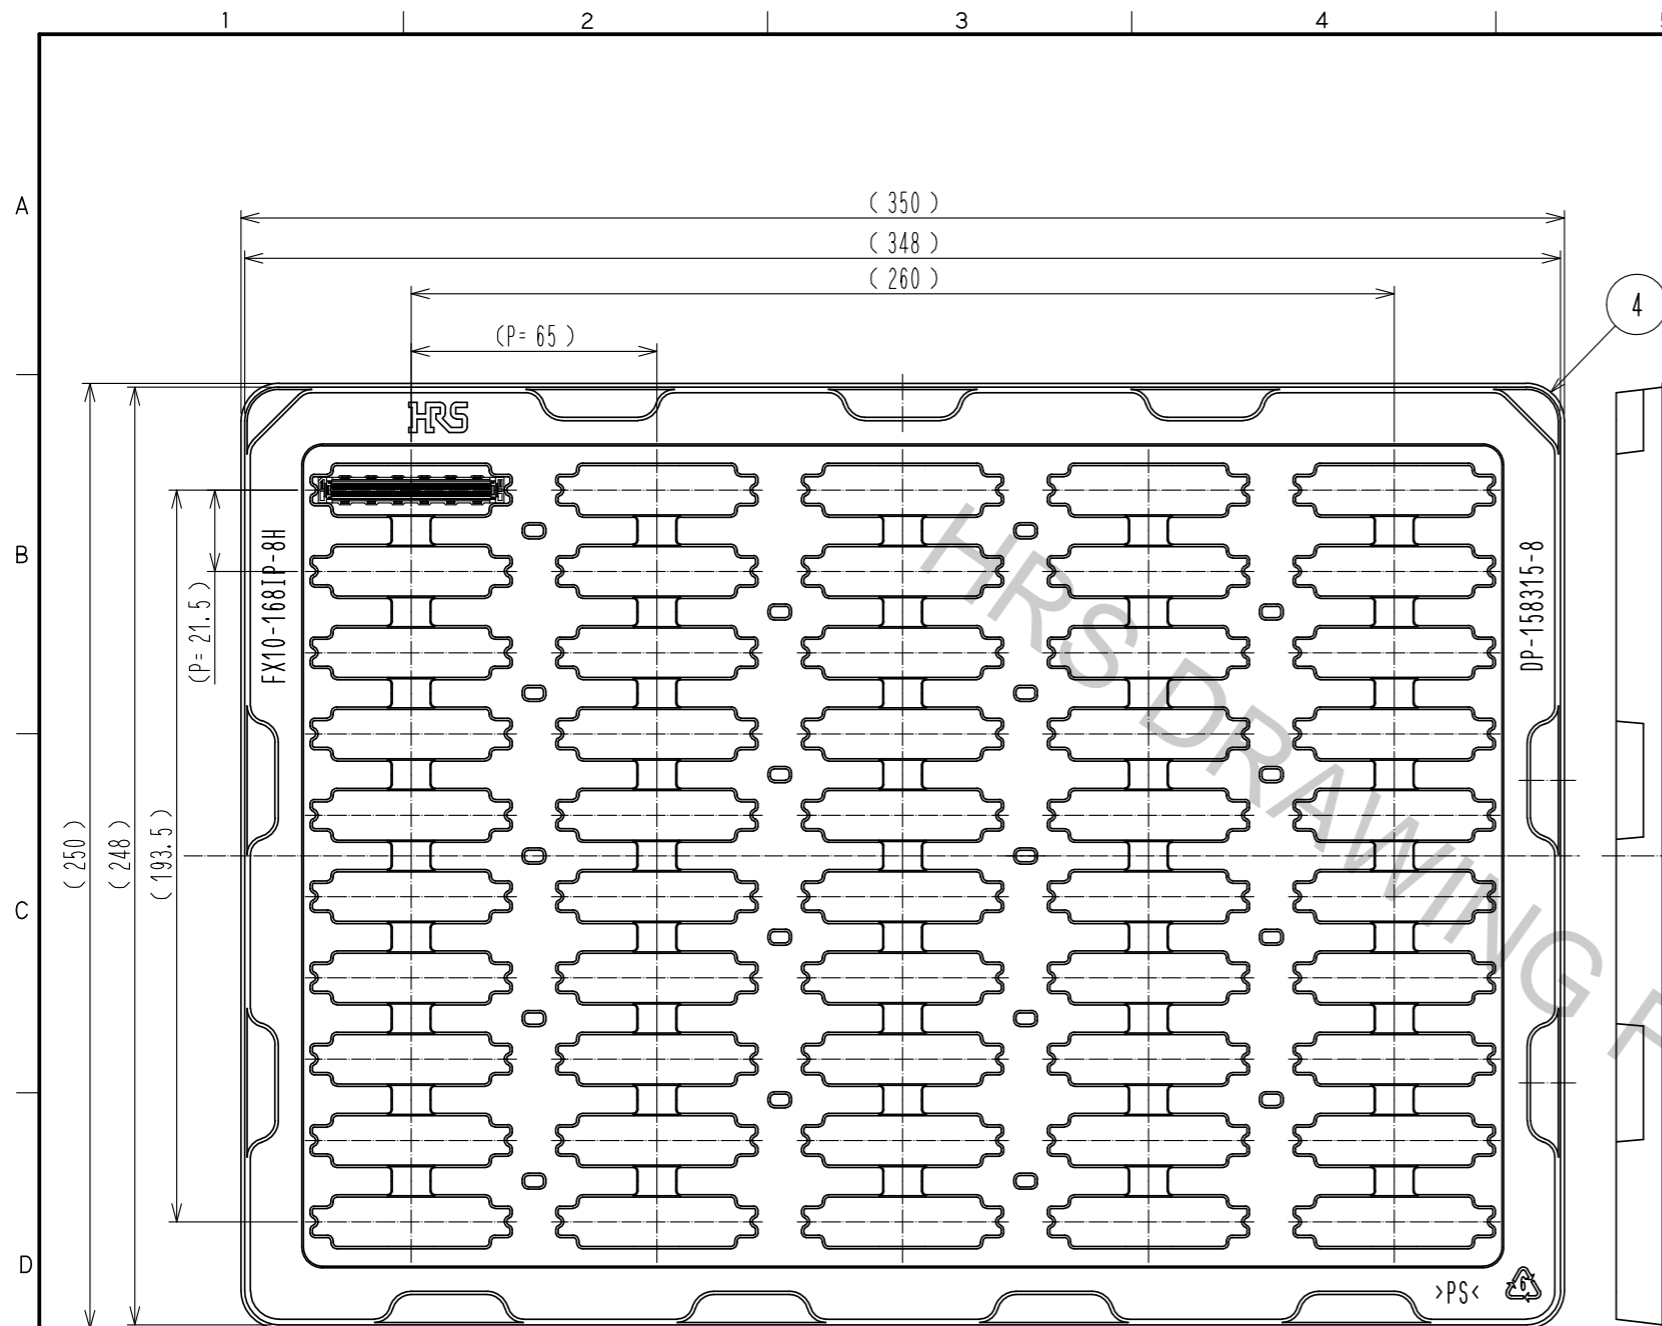

Fig.3 Drawing for packing (1:2) 6
- (5) Lot No. shall be marked on the indicated position.
- (6) 50pcs of this product are packed in soft tray. See Fig.3 for details.